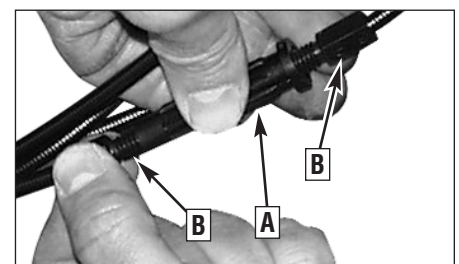

Figure 5-11: Drive cable adjustment.
4. The difference between the two measurements should be approximately 1/4". Adjust if the result does not meet this specification. Spring extension is adjusted with a cable adjuster (R, Figure 3-1) on the wheel drive cable. To adjust, hold the turnbuckle (A, Figure 5-11) while turning each adjuster (B, Figure 5-11) away from the turnbuckle 1/2 turn each.